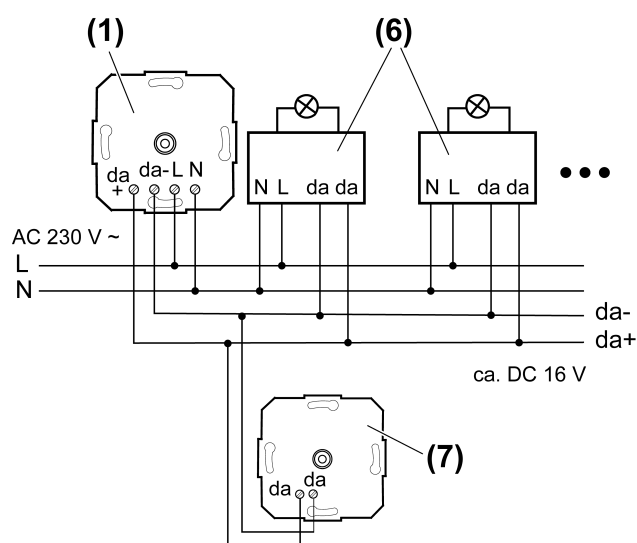

Figure 3
- (1) DALI potentiometer with power supply unit
- (6) DALI subscriber e. g. DALI electrical ballast
- (7) DALI potentiometer without power supply unit
- Connect the DALI potentiometer and DALI electrical ballast according to the wiring example (Figure 3). In so doing, observe the data of the electrical ballast manufacturer.